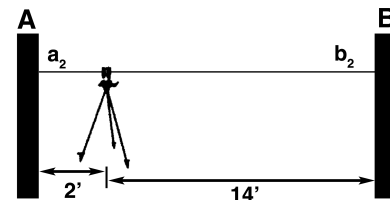

Figure 5
4. Move the instrument straight towards wall A to a point 2 ft. away and repeat step 2, marking the intersections as a_2 and b_2 , see Figure 5.